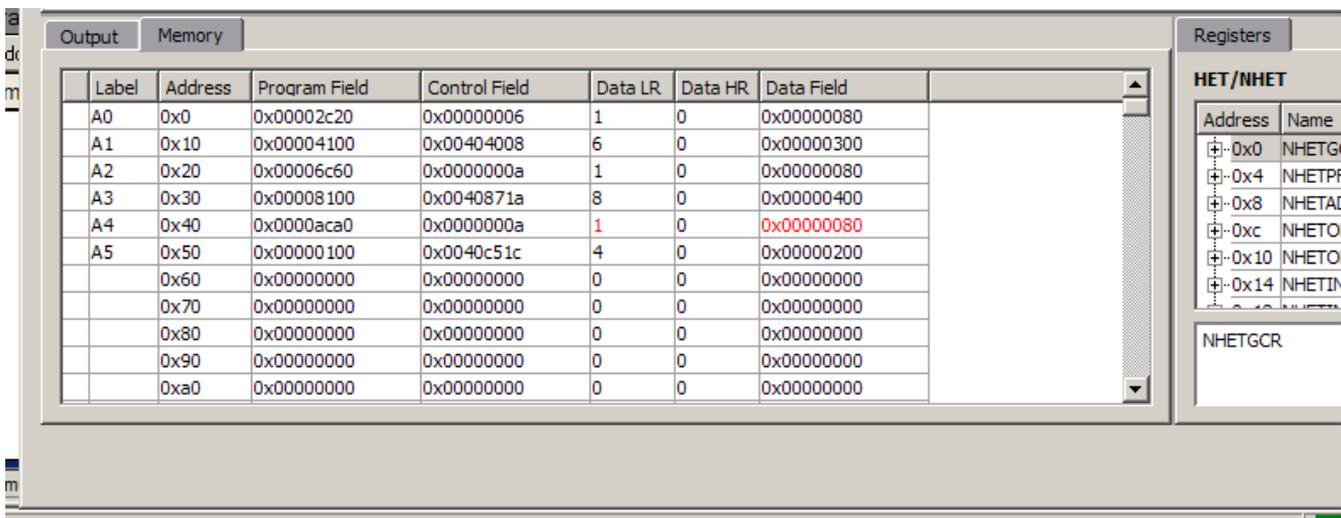

Figure 5. Memory Window After Step 7c
- (c) Verify that the Data Fields of A0 (address 0x0), A2 (0x20) and A4 (0x40) all have the value 0x00000080 (Data LR = 1, Data HR = 0). You should see a memory window that matches Figure 5.